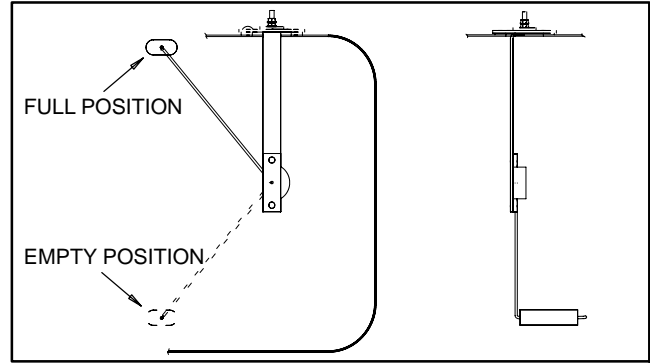

Figure 35
5. Check resistance of the sender with a multimeter (Fig. 35).